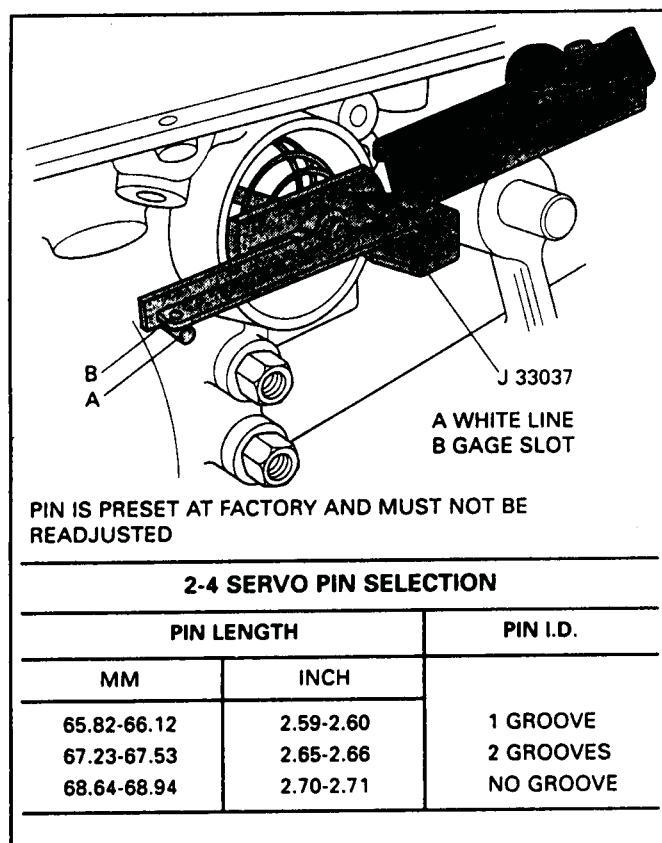

Figure 45
1. Install J-33037 with the apply pin as shown in Figure 45.
2. Apply 100 in.lbs. of torque as shown, in Figure 45.
4. Use the servo pin selection chart in Figure 45 to determine the correct pin length.